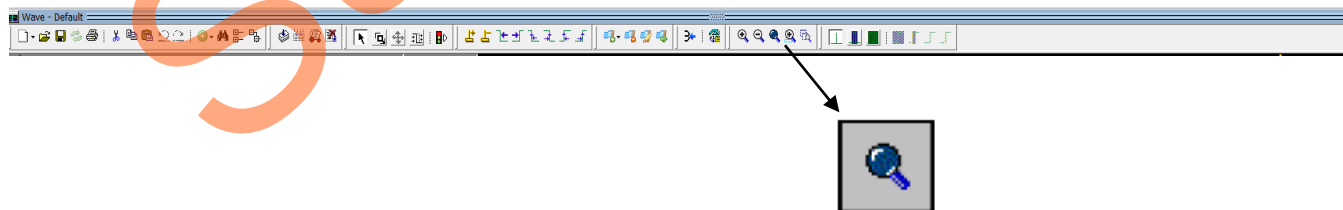

Figure 38. Zoom Full Button
2. Click the **Zoom Full** button to fit all the waveforms in the single view (Figure 38).